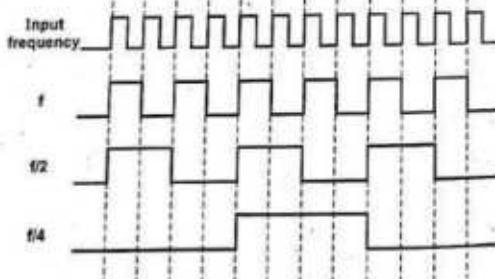

Fig. 5.7.6 Frequency divider waveform
- The Fig. 5.7.6 shows frequency divider using D flip-flops. Here, D flip-flops are used as toggle flip-flops. After each stage frequency is divided by 2.